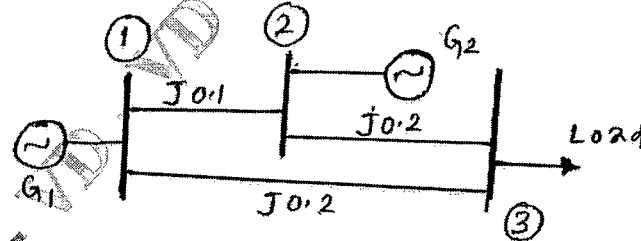

Fig.Q.4(c)
c. For the three bus system shown in Fig.Q.4(c), use Gauss-Seidel method and determine the voltages at bus 2 and bus 3 at the end of first iteration. Line impedances marked on the diagram are in p.u. The information relating to bus data is given in Table Q.4(c).